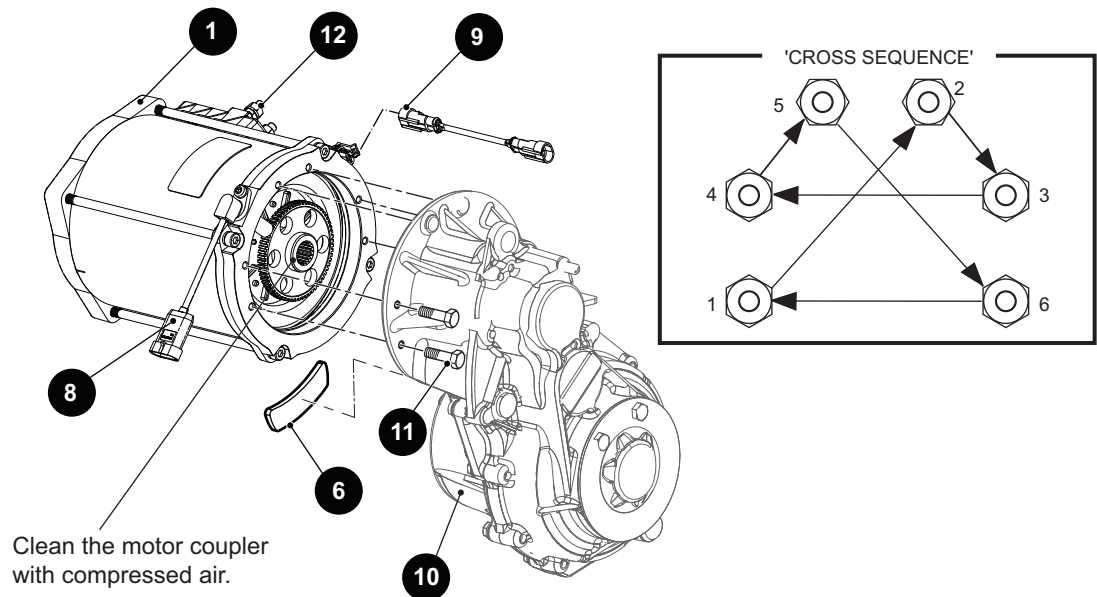

Fig. 8 Rear Motor Components
3. Disconnect the motor wires from terminals U, V, and W (12) (Ref. Fig. 8) (Ref. Fig. 9).
4. Disconnect the speed sensor (8) and temperature sensor (9). (Ref. Fig. 8).
5. Remove the six bolts (11) that secure the motor (1) to the axle housing, and carefully slide the motor straight out from the axle splines.
6. Remove the bolts (5), washers (4), motor cover (3) and motor cover gasket (2) from the motor (1).
7. Keep the motor cover (3), hardware (5,4), and gasket (2) to be used in assembly, or replace them if they are damaged.
3. Place the differential gasket (6), in the groove provided in the differential (10). Finger tighten the bolts (11) in a 'cross sequence' (Ref. Fig. 8), then tighten to 25 in. lbs. (2.82 Nm) increments of torque using the same 'cross sequence' pattern.
4. Reconnect the temperature sensor (9) and speed sensor (8) wiring harnesses.
5. Reconnect the U, V, and W terminals (12) (Ref. Fig. 8) (Ref. Fig. 9).